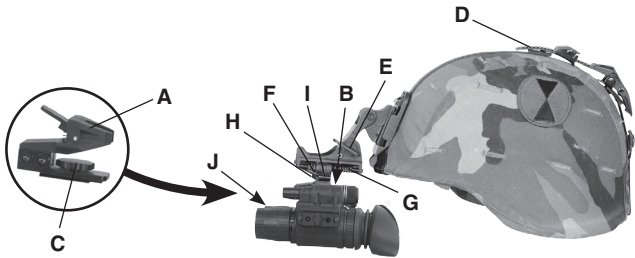

FIGURE 3-4
1. Loosen the screw (C). Attach the adapter (A) to the rail (B) of ATN PS15. Tighten the screw (C) anew (Figure 3-4).
2. Tighten and fixate the straps (D).
3. Align the adapter and the head. Slide the monocular rearwards until the alignment boss (H) aligns with the alignment groove (F) on the helmet mount. Push until the monocular locks into the helmet mount.